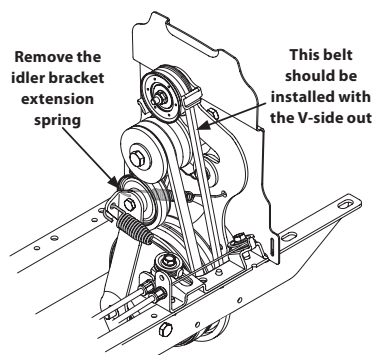

Figure 19
- Remove the idler bracket extension spring, as pointed out in Figure 19. It is recommended to use a pair of needle-nosed pliers, and grab the spring by the end that hooks over the frame. Simply grab it and pull it away from the frame, then upwards and carefully relieve the tension of the spring.